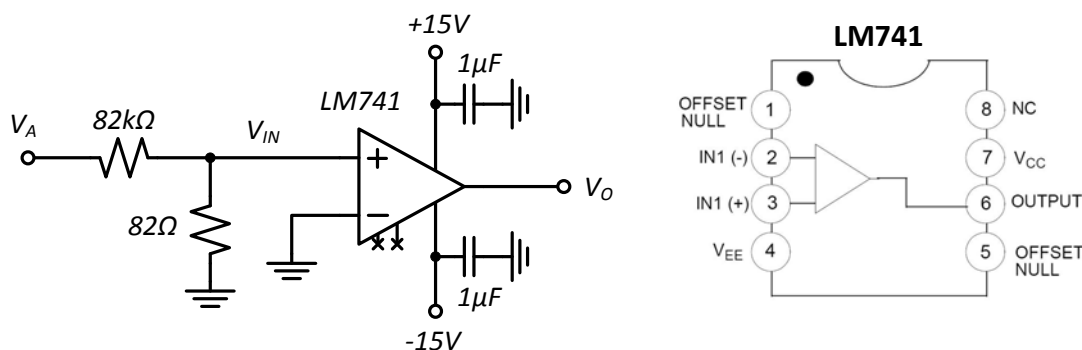

Figure 3. Circuit for exercises L2.1 and pinout of LM741.
**L2.1** This part of the lab will use the HP4155 Semiconductor Parameter Analyzer to measure the open-loop characteristics of a 741 opamp. Construct the circuit shown in Figure 3.